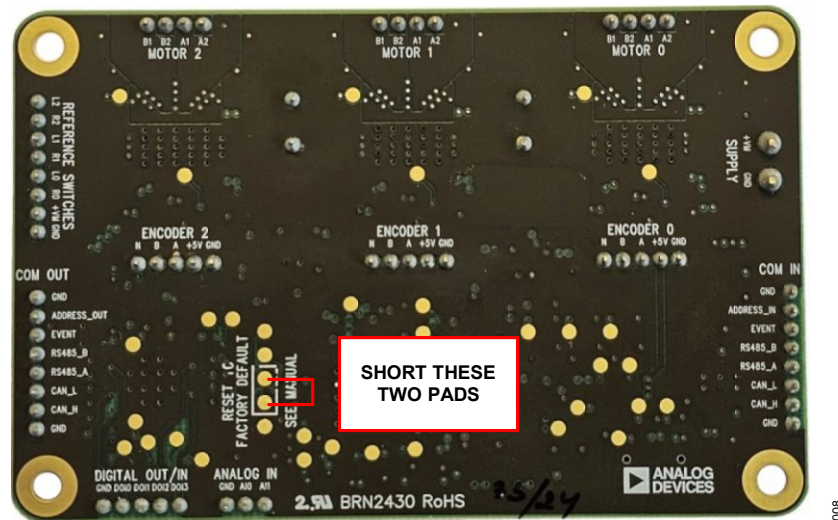

Figure 7. PCB Bottom View—Reset to Factory Defaults
2. Short the pads on the bottom of the PCB. See Figure 7.